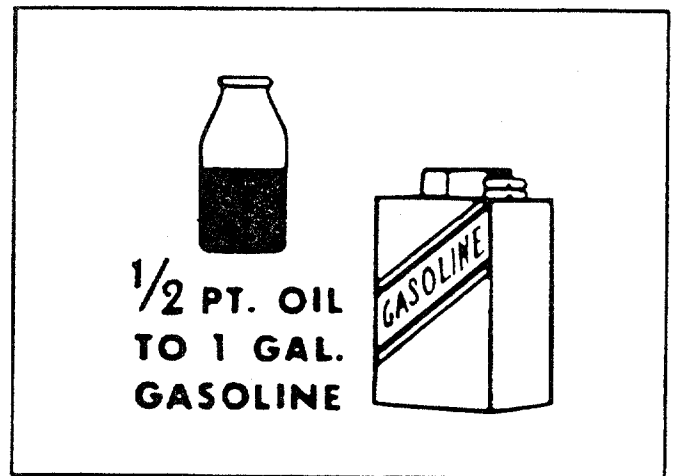

FIGURE 5.
1. This mower has a two cycle engine. It **MUST** use a gasoline-oil mixture of 20:1. See figure 5.
2. Mix in a clean container one half (½) pint of SAE 30 or 40 oil per one (1) gallon of regular gasoline. (NOT NO LEAD GASOLINE.) This mixture assures positive lubrication. Do not use 10W-30 type oils. See figure 5.